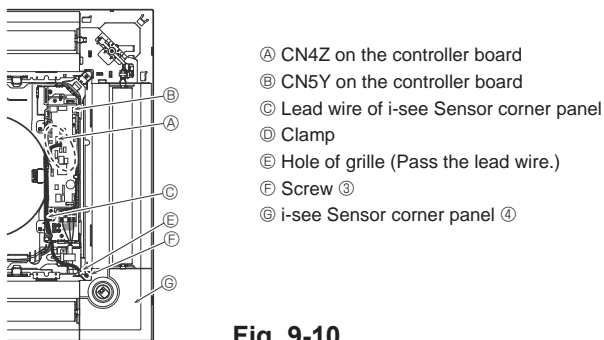

Fig. 9-10
9.4.6. Installation of i-see Sensor corner panel (Fig. 9-10)
- Route the lead wire connector (white, 4 poles and white, 5 poles) of the i-see Sensor corner panel (4) from the side of the electrical box on the main unit and connect to the connector CN4Z and CN5Y on the controller board.